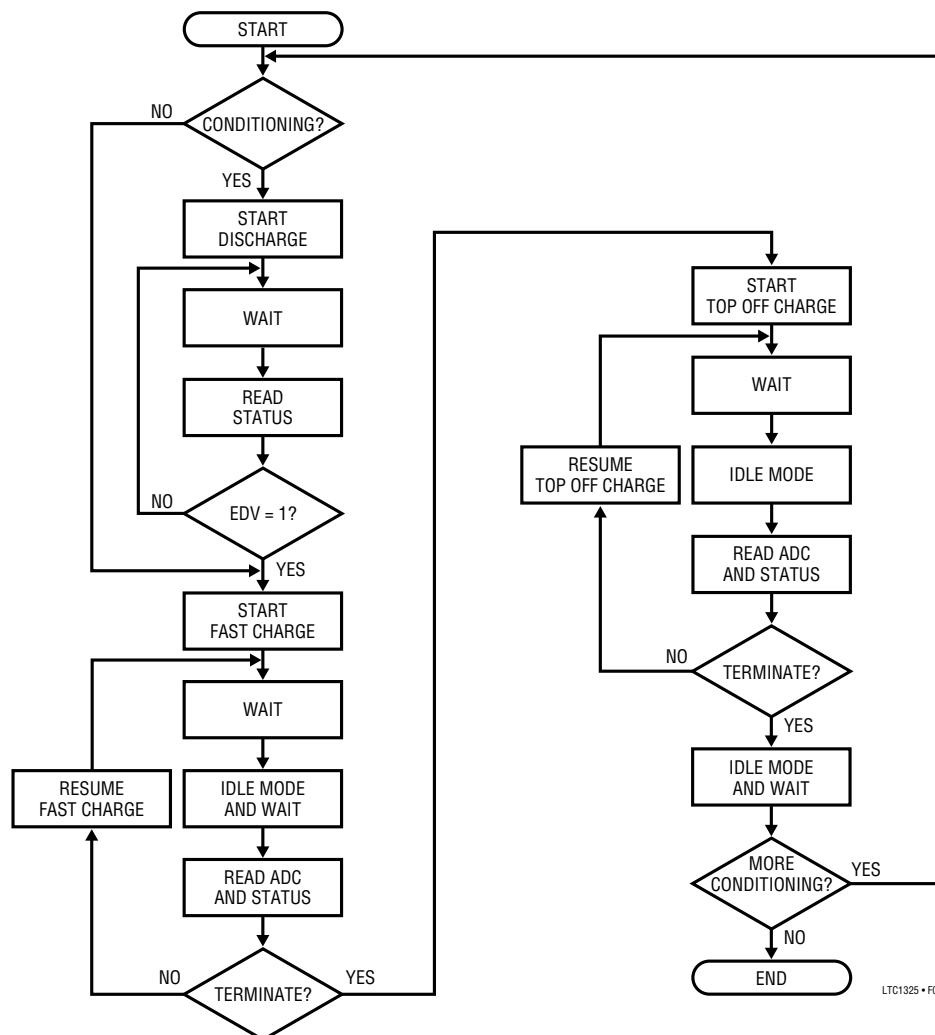

Figure 6. Simple Charging Algorithm
Figure 6 shows a simplified flowchart of a charging algorithm. In practice, this flowchart has to be augmented to take into account the occurrence of fail-safes at any point in the algorithm. For example, the battery temperature could rise above HTF during discharging or charging. General programming notes are as follows:
7. The FSCLR bit should be set to 1 to clear any faults and reset the timer when starting Discharge, Fast charge or Top Off. The status bits that the LTC1325 returns during the same I/O operation (that FSCLR is set to 1) should be checked to determine if faults were indeed cleared, i.e., discharging or charging has begun. This is not shown in the simplified flowchart of Figure 6. For commands other than the START commands, FSCLR should be set to 0 so as not to reset the timer.